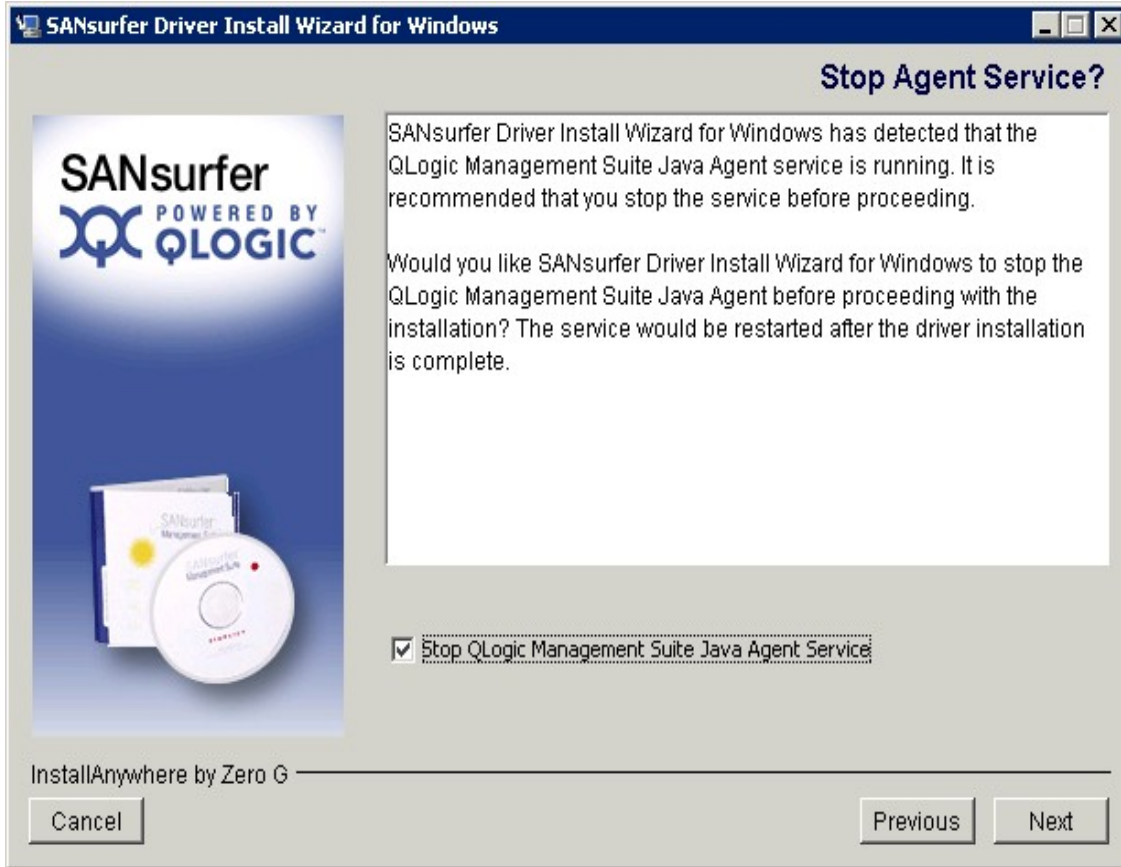

Figure 61 SANsurfer Java agent service message
6. If this is *not* a new installation, the message in Figure 61 may appear. Check the **Stop QLogic Management Suite Java Agent Service** checkbox and click **Next**.